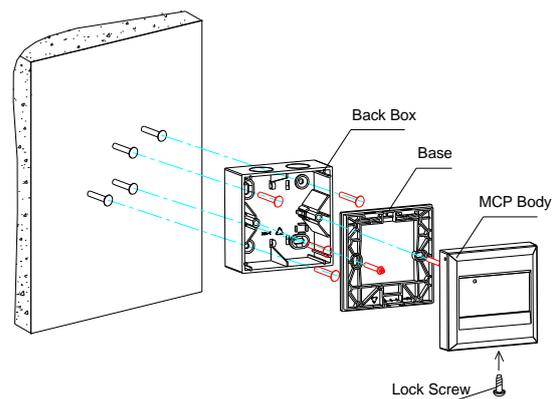

Fig. 2
**Surface Mounting:** First install the back box into the wall using 4 screws, and then install the base onto the back box. Connect cables to corresponding terminals as described above. Hook the juts of the MCP body to the base, and then press the part below the frangible element to combine them completely, as shown in Fig. 2.